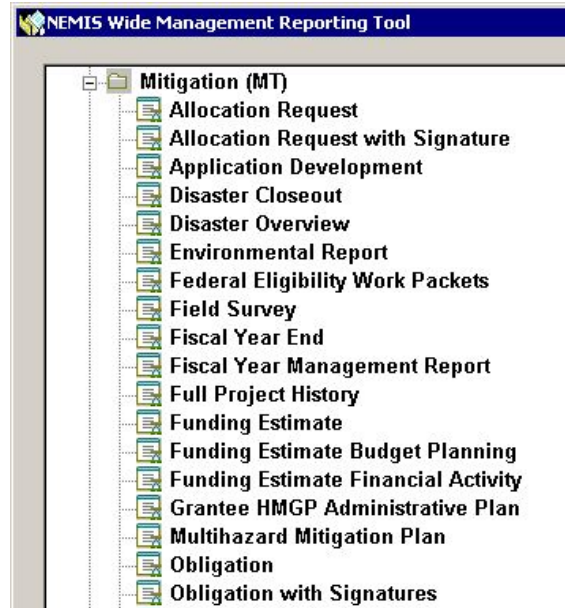

Figure 14-3: Mitigation Reports List
- a. Double-click the Mitigation (MT) folder. The list of Mitigation Reports is displayed (Figure 14-3).